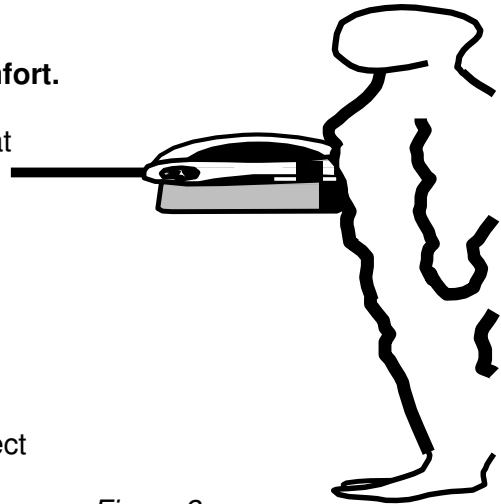

Figure 2
6. Adjust the height of the exercise head so that the subject is able to grasp the handle of the tool while the forearm is resting in a pronated position on the arm rest and the axis of the wrist is in alignment with the exercise shaft. The elbow should be at 90 degrees of flexion, the wrist should be in neutral (0 to 15 degrees of extension) with zero (0) deviation, and the hand should be centrally placed on the handle. Enter the height in the set-up parameters. The height should be the same for both wrist flexion and extension tests.
8. The test position is as follows: the subject should be standing with feet even in stance, flat on the floor, and shoulder width apart; shoulders should be level, adducted, and neutral with regard to rotation; the elbow being tested should be flexed at 90 degrees; the forearm should be pronated; the wrist should be in neutral (0 to 15 degrees of extension) with zero (0) deviation; and the hand should be placed centrally on the handle. This position should be maintained throughout testing (see Fig. 2).